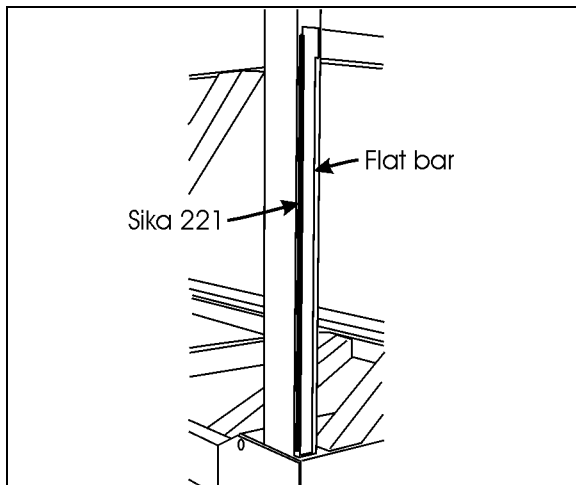

FIGURE 44 : SIDE PANEL INSTALLATION – SIKA 221 APPLICATION ON STRUCTURE
4. Inspect the Sika bead at the intersection of the corner vertical member and the flat bar as shown in FIGURE 44. if it is damaged, remove adhesive residue and apply a new 3mm diameter bead of Sika 221;